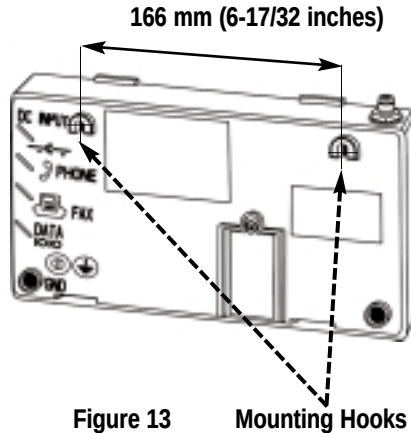

Figure 13
- 1) To mount the FWT on a wall, mark two hole locations 166 mm (6-17/32 inch) apart. These hole locations match the mounting hooks on the back of unit - **see Figure 13**.